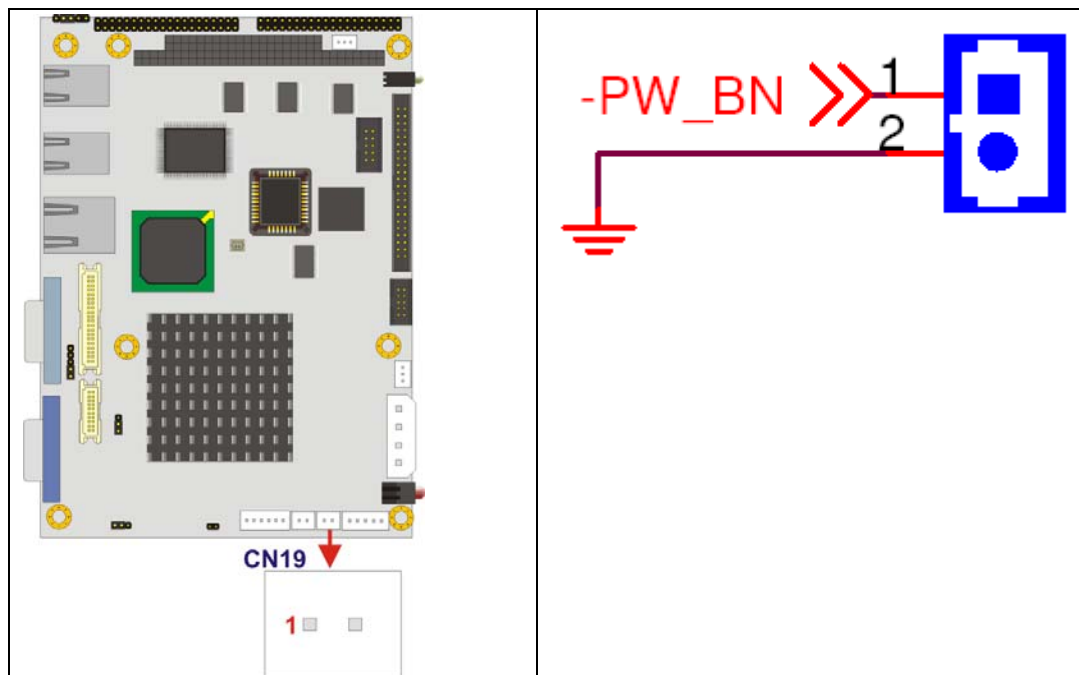

Figure 4-14: Power Button Connector Location
- CN Location:** See **Figure 4-14**